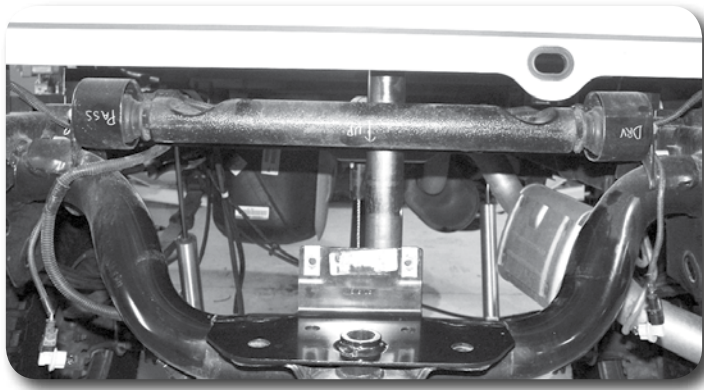

Figure 31b
87. Loosen the end mounting nuts on the dampener and pull it out of the frame mounts. Flip the dampener end to end and slide it back into the mounting slots **Figure 31b**. The alignment tabs on each side should go into the slots first. The driver's side is now on the passenger's side and the dampener will be upside-down with the writing still visible at the back of the vehicle. Torque mounting nuts to 30 ft-lbs. Lower bed.